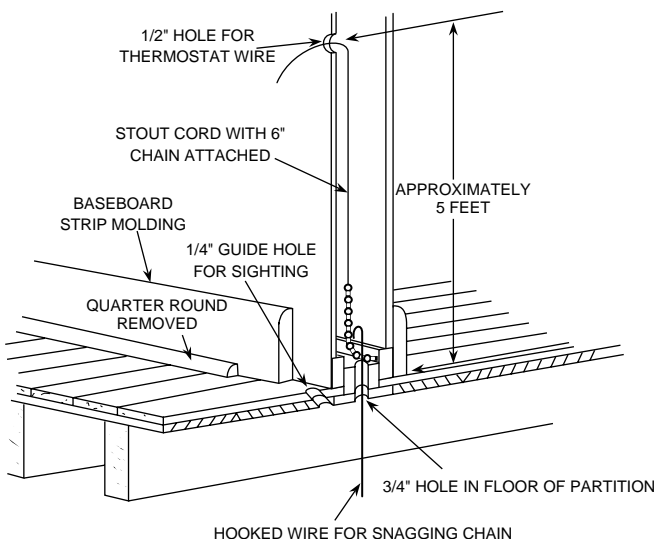

Figure 1. Routing Thermostat Wires
3. Probe for obstructions in partition before drilling ½” hole in wall at selected location. Take up quarter round and drill a small guide hole for sighting (see Fig. 1). From basement, drill ¾” hole in partition floor next to guide hole. In houses without basements, drill ½” hole through ceiling and into partition from above (see Fig. 1).